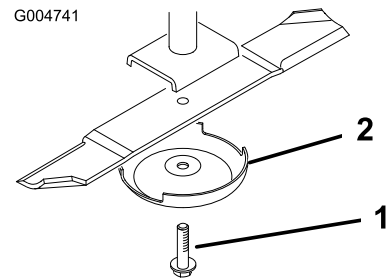

Figure 81
2. Grasp the end of the blade using a rag or thickly padded glove. Remove the blade bolt, anti-scalp cup, and blade from the spindle shaft (Figure 81).